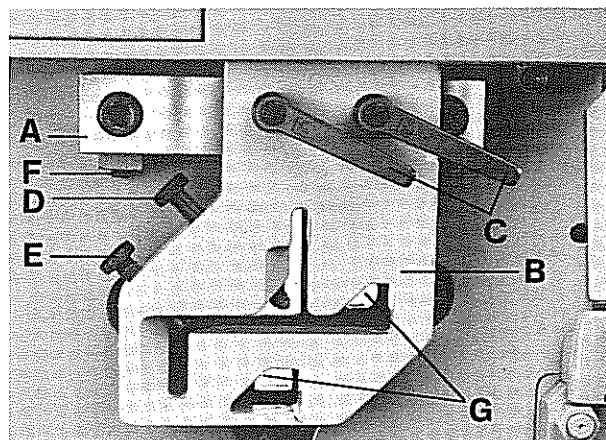

Fig. 37: Hold-down KBLH 300
- a) KBLH 300: Loosen clamping lever "B", and push th hold-down plate "C" off the stop rail (Cf. fig. 37).
(Cf. fig. 37)